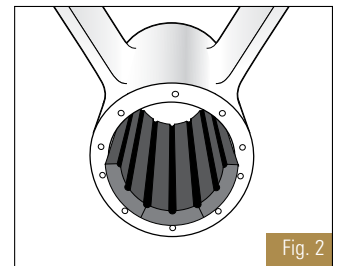

Fig. 2
3. **Insert rubber staves in the lower half of the bearing housing** (you will notice that the staves are longer than the housing. This is correct.). Lubricate the running surface of the staves; see "note and warning". (Fig. 2)